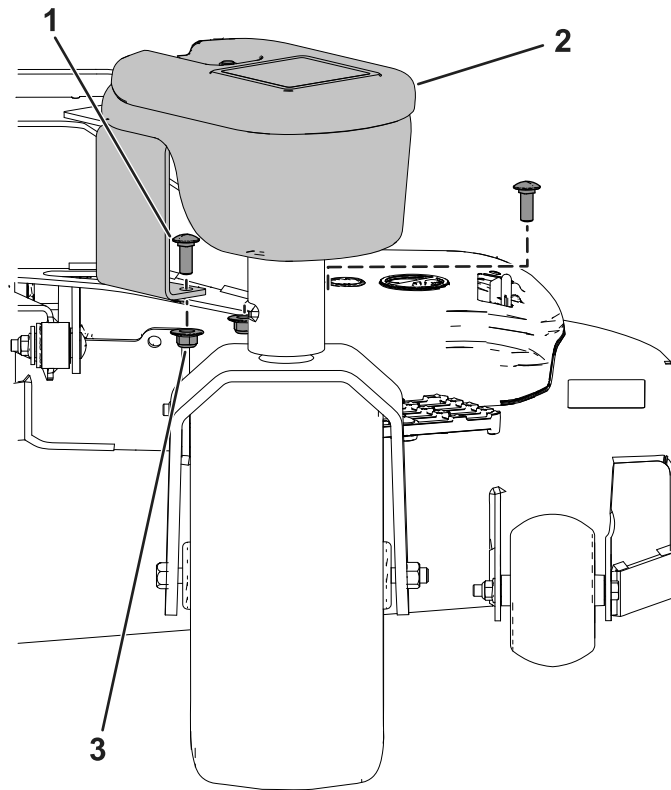

Figure 8
3. Secure the assembled caster weight to the caster arm using 2 carriage bolts (3/8 x 1 inch) and 2 flange nuts (3/8 inch) as shown in Figure 8.